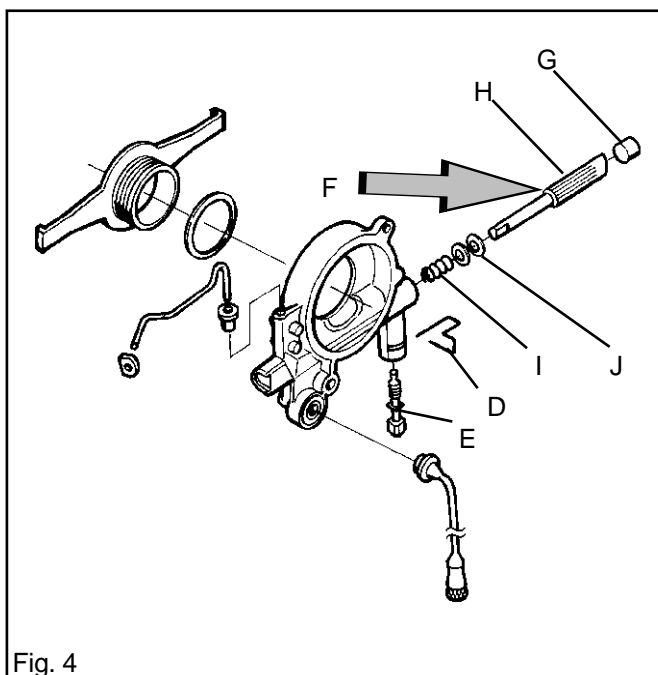

Fig. 4
7. Remove the clip (D) and unscrew the adjuster screw (E). See fig. 4.
8. Using pliers, press on the plug piston at F so that the cover plug (G) and piston (H) can be removed. See fig. 4.
9. Using pliers, remove the spring (I) and the two washers (J). See fig. 4.
2. Locate the spring (I), 2 washers (J) and pump piston (H) in the pump casing. Oil in all components with chain oil. See fig. 4.
3. Using a screwdriver, push in the pump piston and screw home the adjuster screw (E) fully. See fig. 4.
4. Locate the cover plug. (G). See fig. 4.
5. Fit the clip (D). See fig. 4.